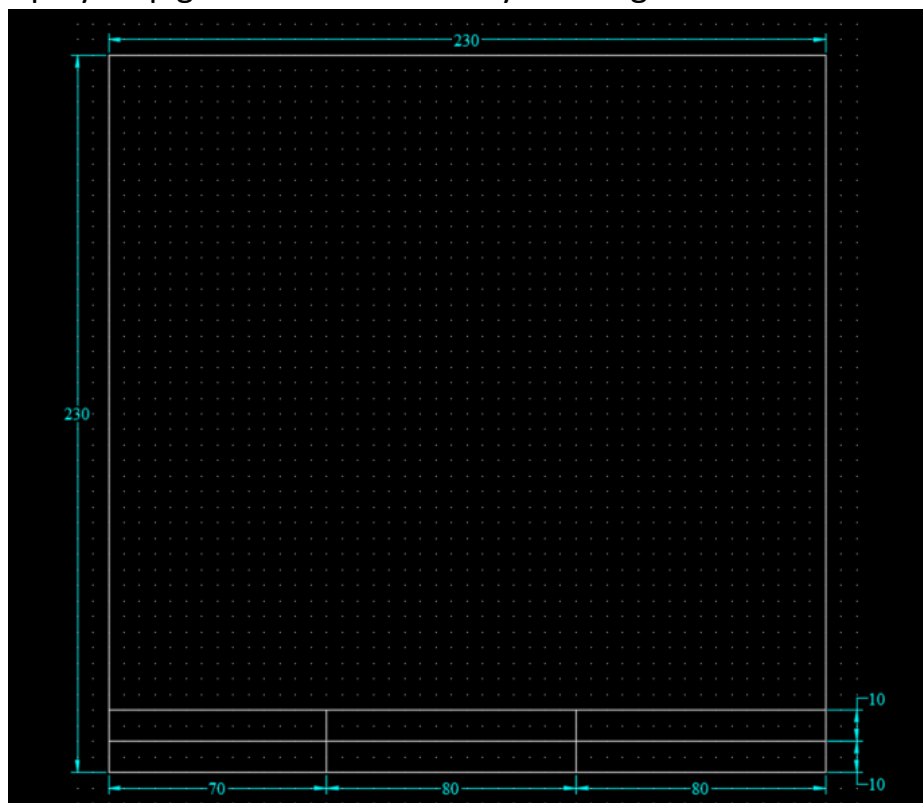

Fig 1
2. Draw the border and title block as shown in Fig 1.
4. Follow the step by step guide shown below by drawing the border & title block (FIG 1):